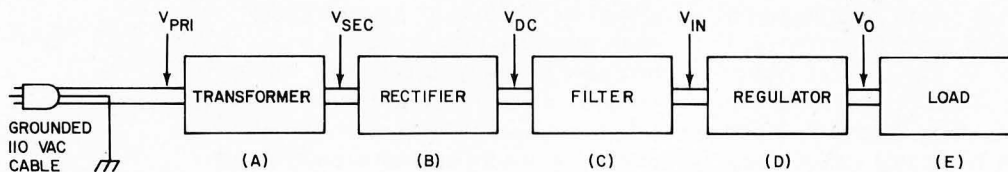

Figure 1: The Power Supply as a System. This is a block diagram identifying the conceptual divisions of a typical power supply system.
Figure 1: Timing of a Direct Digital Read Operation. The flux on the tape is shown at the top as an idealized square wave. The playback voltage is second from top, an analog function which reflects the actual tape flux zones and the sensing of these zones through the tape head. Referring to the schematic of figure 3, the positive going and negative going transition edges are detected and used to produce pulses which drive the 7474 flip flop used to reconstruct data as received. This data out of the 7474 is read and decoded by the adaptive software running in the processor.
be reconstructed if it is to resemble the original data (see figure 1).
The basic function of a power supply can be segregated into five components as shown in figure 1. These are stepping the line voltage to a lower more desirable value (A), changing the alternating current to a direct current (B), filtering the DC (C), making sure the voltage is held constant under adverse conditions (D), and distributing the current to the device to be driven, called the load (E). The symbols given to the voltages at each point are listed in table 1 to avoid confusion.